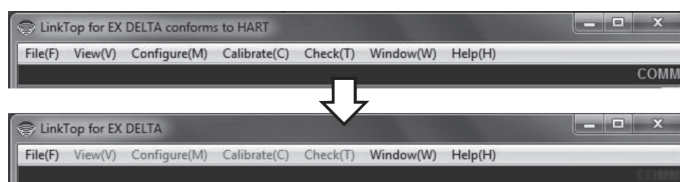

Fig.15
- ④ When connection is terminated, part of the menu becomes inactive (characters indicated in gray) as shown in Fig. 15.